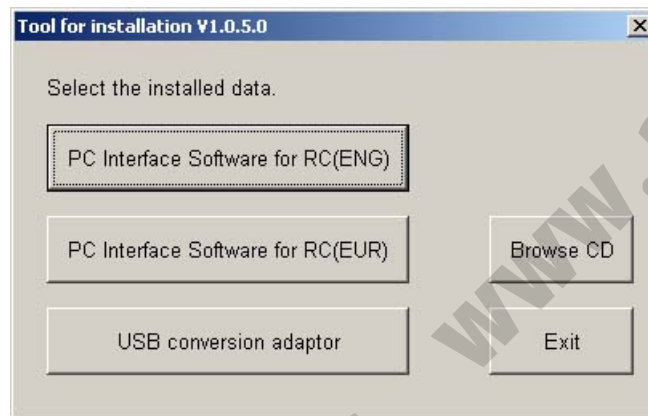

Fig. 1.1 Installed Data Selection Window
- [2] The installed data selection window (Fig. 1.1) will be displayed.